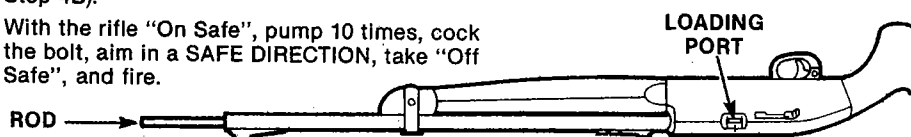

FIG. 11
- Put the rifle "On Safe", open the bolt, insert a rod or straightened clothes hanger into the barrel and carefully push the jammed pellet or BB into the loading port. Don't try to reuse that pellet or BB again. (Fig. 11)